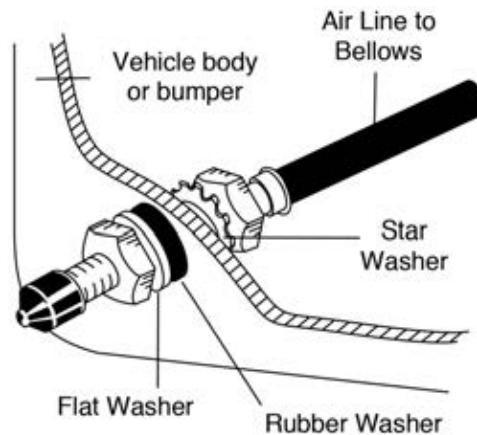

fig. 4
15. Use a standard tube cutter, a razor blade, or very sharp knife to cut the air line. A clean square cut will ensure against leaks. Cut the air line assembly into two equal parts. Drill 5/16” hole for inflation valves and mount as illustrated. Rubber washer on outside is for weather seal (Figure 4).